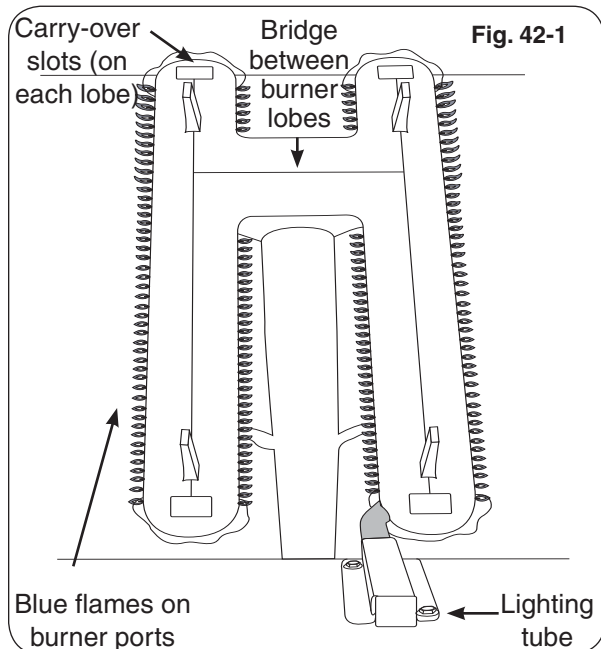

Fig. 42-1
Flames from a properly adjusted main burner with no wind or breeze present will appear fairly steady, consistent, and mostly blue. If the tip of a flame were to turn orange, it should only do so briefly and then become blue again. The flames will appear to burn while touching the burner ports (see Figure 42-1).
6. Repeat steps 1-4 until the flames appear to touch the burner ports, burning fairly steadily and mostly blue (see Fig. 42-1).